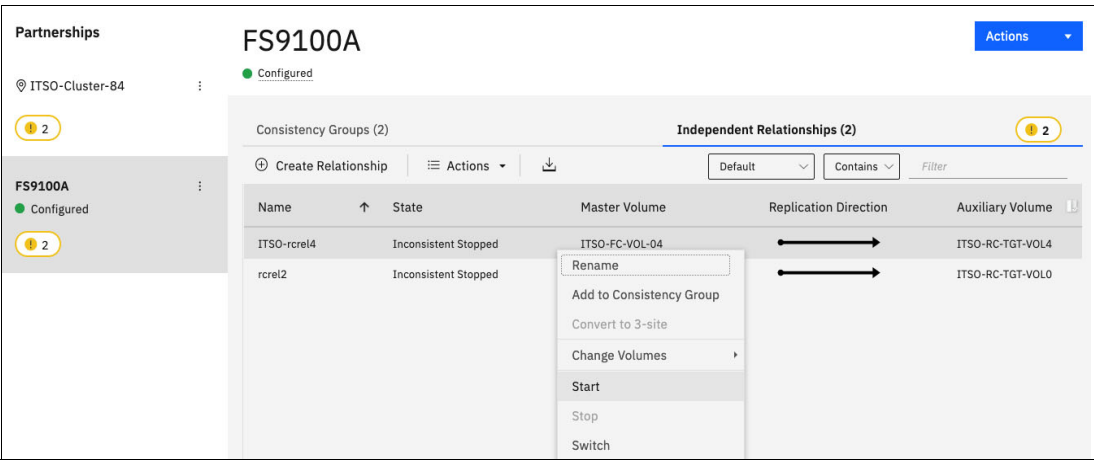

Figure 10-134 Starting Remote Copy relationships
2. Select the target RC system and go to the **Independent Relationships** tab. Right-click the relationships to be started and select **Start**, as shown in Figure 10-134.